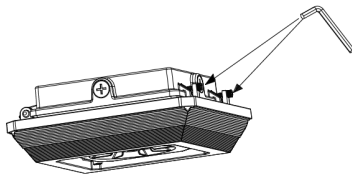

Figure 1-1
1. Disassemble the fixture housing cover by loosening the two screws on the fixture housing. Figure 1-1